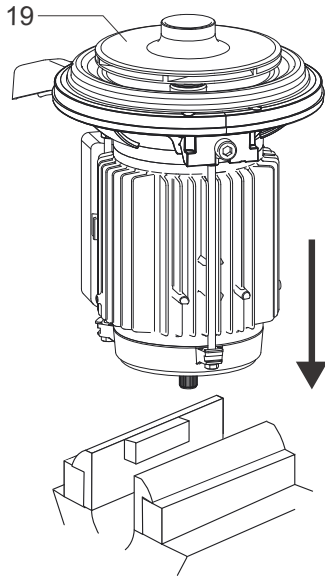

Fig. 12 Placing the motor shaft in a vice
1. Clamp the motor shaft end in a vice with soft copper or aluminium jaw faces to protect the shaft end. See fig. 12.